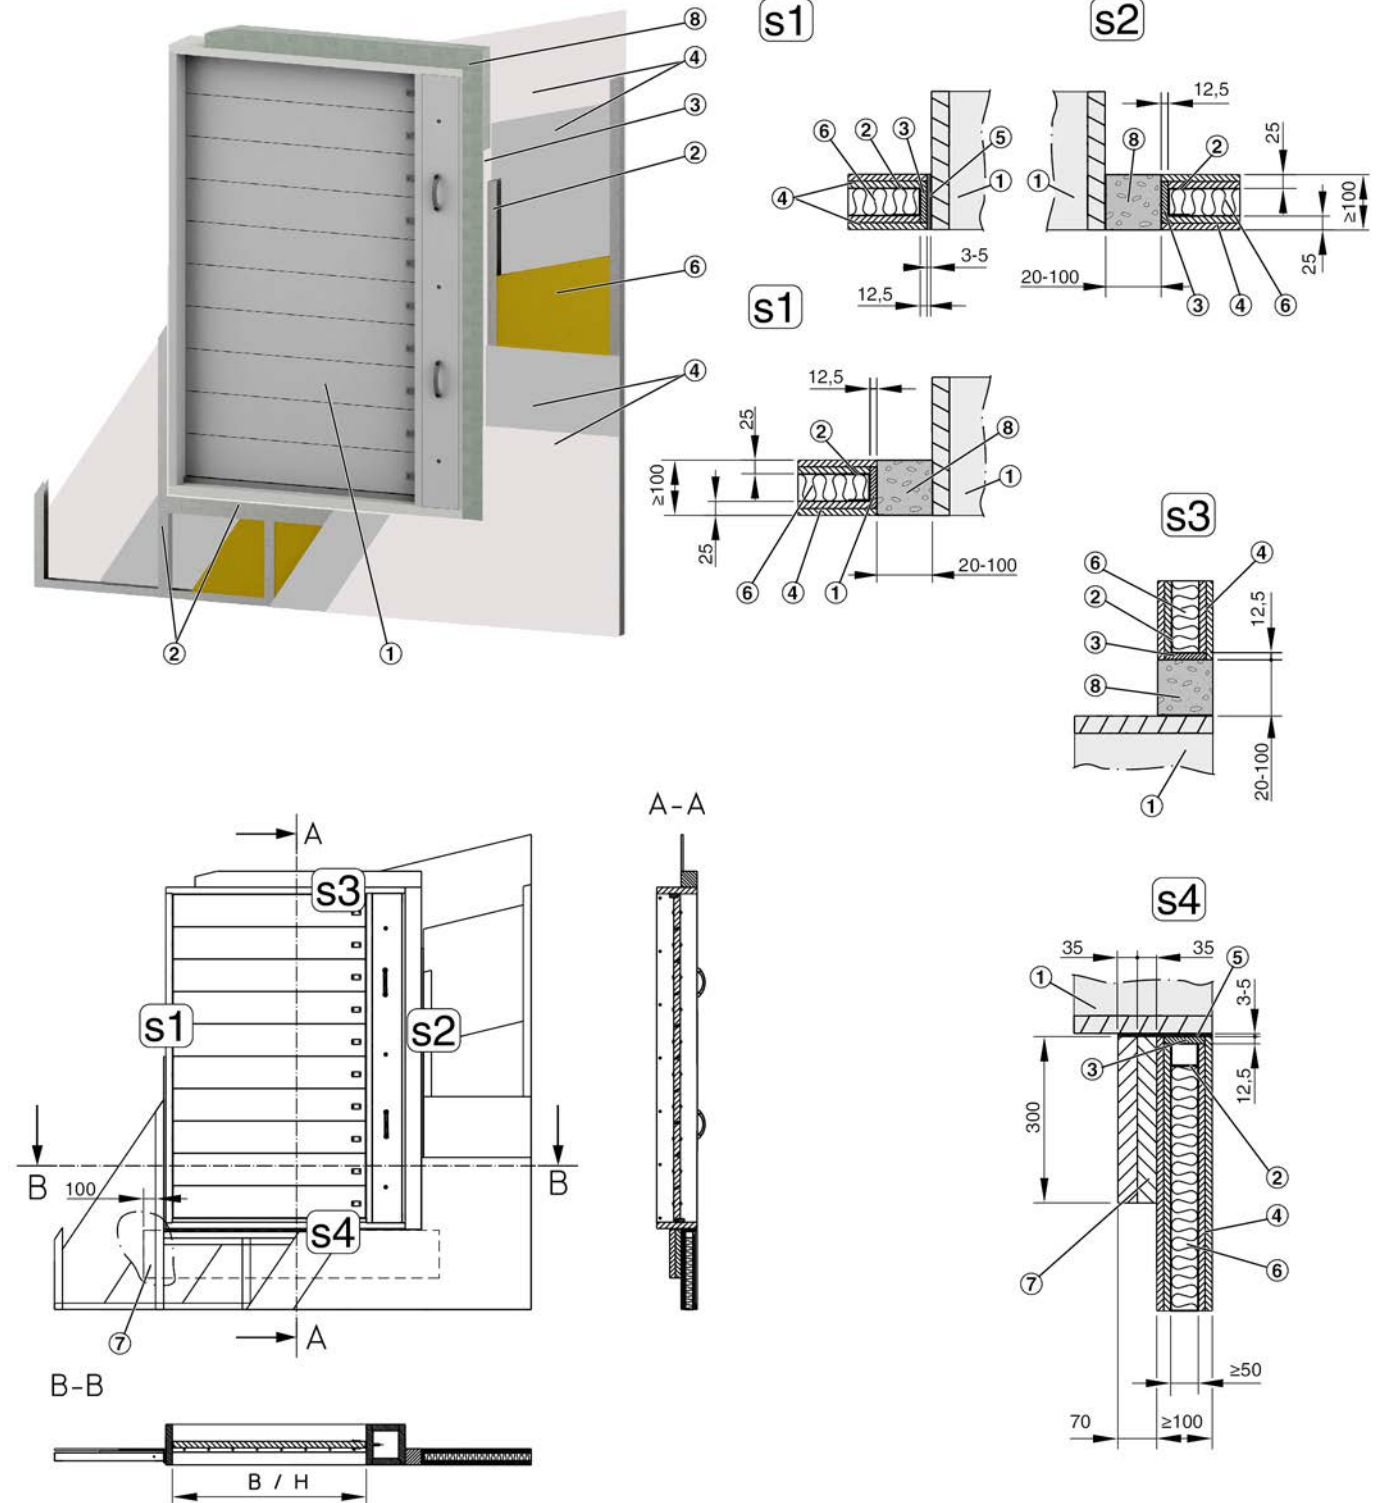

Fig. 27: Installation in lightweight partition wall
- ▶ Create trim panels ( Fig. 27 /3).
- ▶ Create reinforcing board ( Fig. 27 /7):